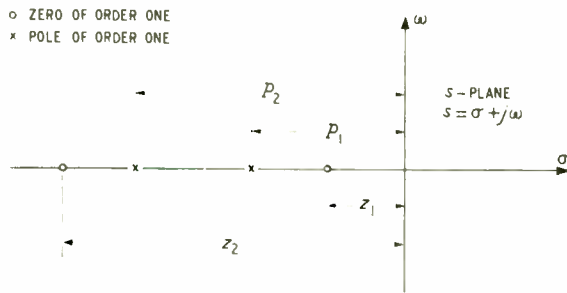

Fig. 3. Pole-zero map of transfer function  $e^\theta$
and so Equation (3) corresponds to the pole-zero map of Fig. 3. All the poles and zeros are located on the negative real axis of the  $s$ -plane and, therefore, the transfer function of Equation (3) is a minimum phase one as it should be.